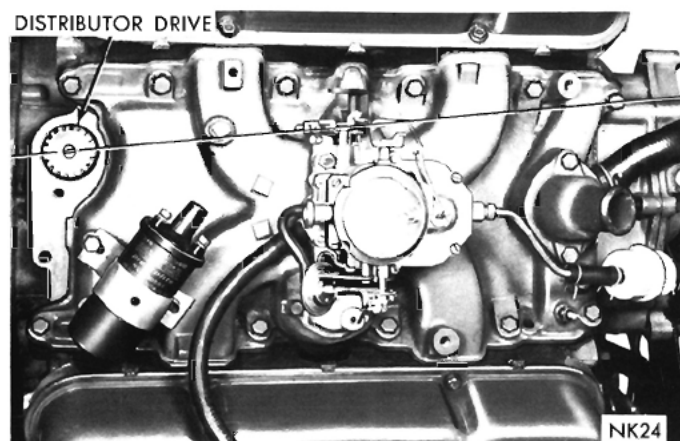
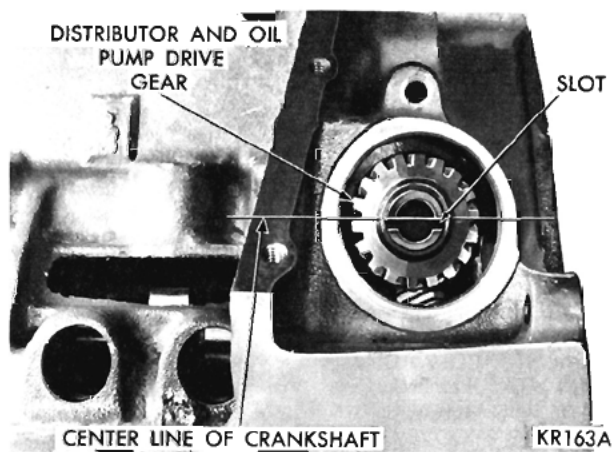

Fig. 99—Position of Distributor Drive Shaft (273 & 318 Cu. In.)
Fig. 100—Distributor Drive Gear Installed
(1) Rotate the crankshaft until the NO. 1 cylinder is at top dead center on the firing stroke.
(2) When in this position, the straight line on the vibration damper should be under ("0") on the timing indicator.
(3) Coat the shaft and drive gear with engine oil. Install the distributor drive gear so when the gear spirals into place on the camshaft, the slot in the top of the distributor drive gear should be pointing to the first intake manifold bolt on the left side of engine (Fig. 99) for the 273 and 318 cubic inch engines and parallel with the centerline of the crankshaft, as shown in (Fig. 100) for the 361, 383, and 426 cubic inch engines.